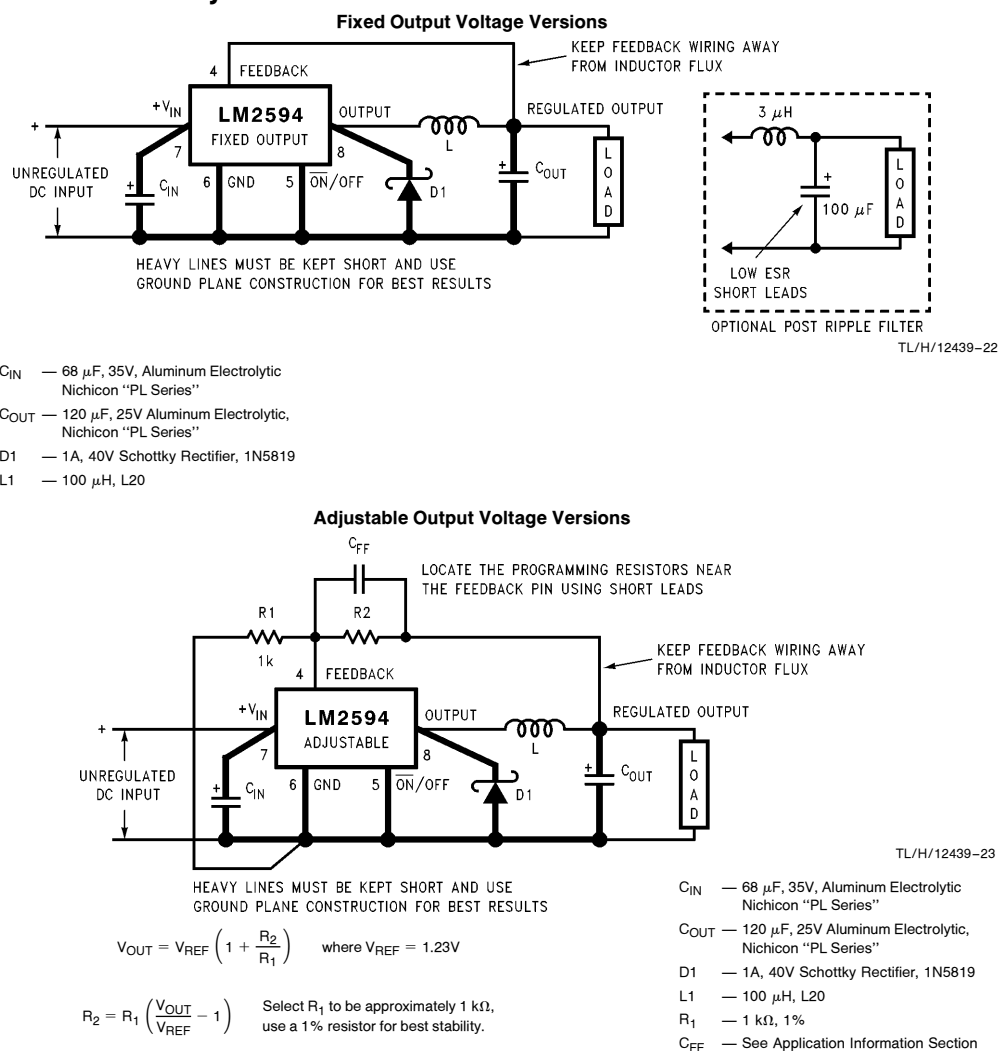

FIGURE 2. Standard Test Circuits and Layout Guides
| SYSTEM PARAMETERS (Note 5) Test Circuit Figure 2 | | | | | |
SYSTEM PARAMETERS (Note 5) Test Circuit *Figure 2*
ON/OFF CONTROL Test Circuit *Figure 2*
Note 5: External components such as the catch diode, inductor, input and output capacitors, and voltage programming resistors can affect switching regulator system performance. When the LM2594 is used as shown in the *Figure 2* test circuit, system performance will be as shown in system parameters section of Electrical Characteristics.
Typical Performance Characteristics (Circuit of Figure 2)
Typical Performance Characteristics (Circuit of Figure 2) (Continued)
1. Programming Output Voltage (Selecting R_1 and R_2 , as shown in *Figure 2*)